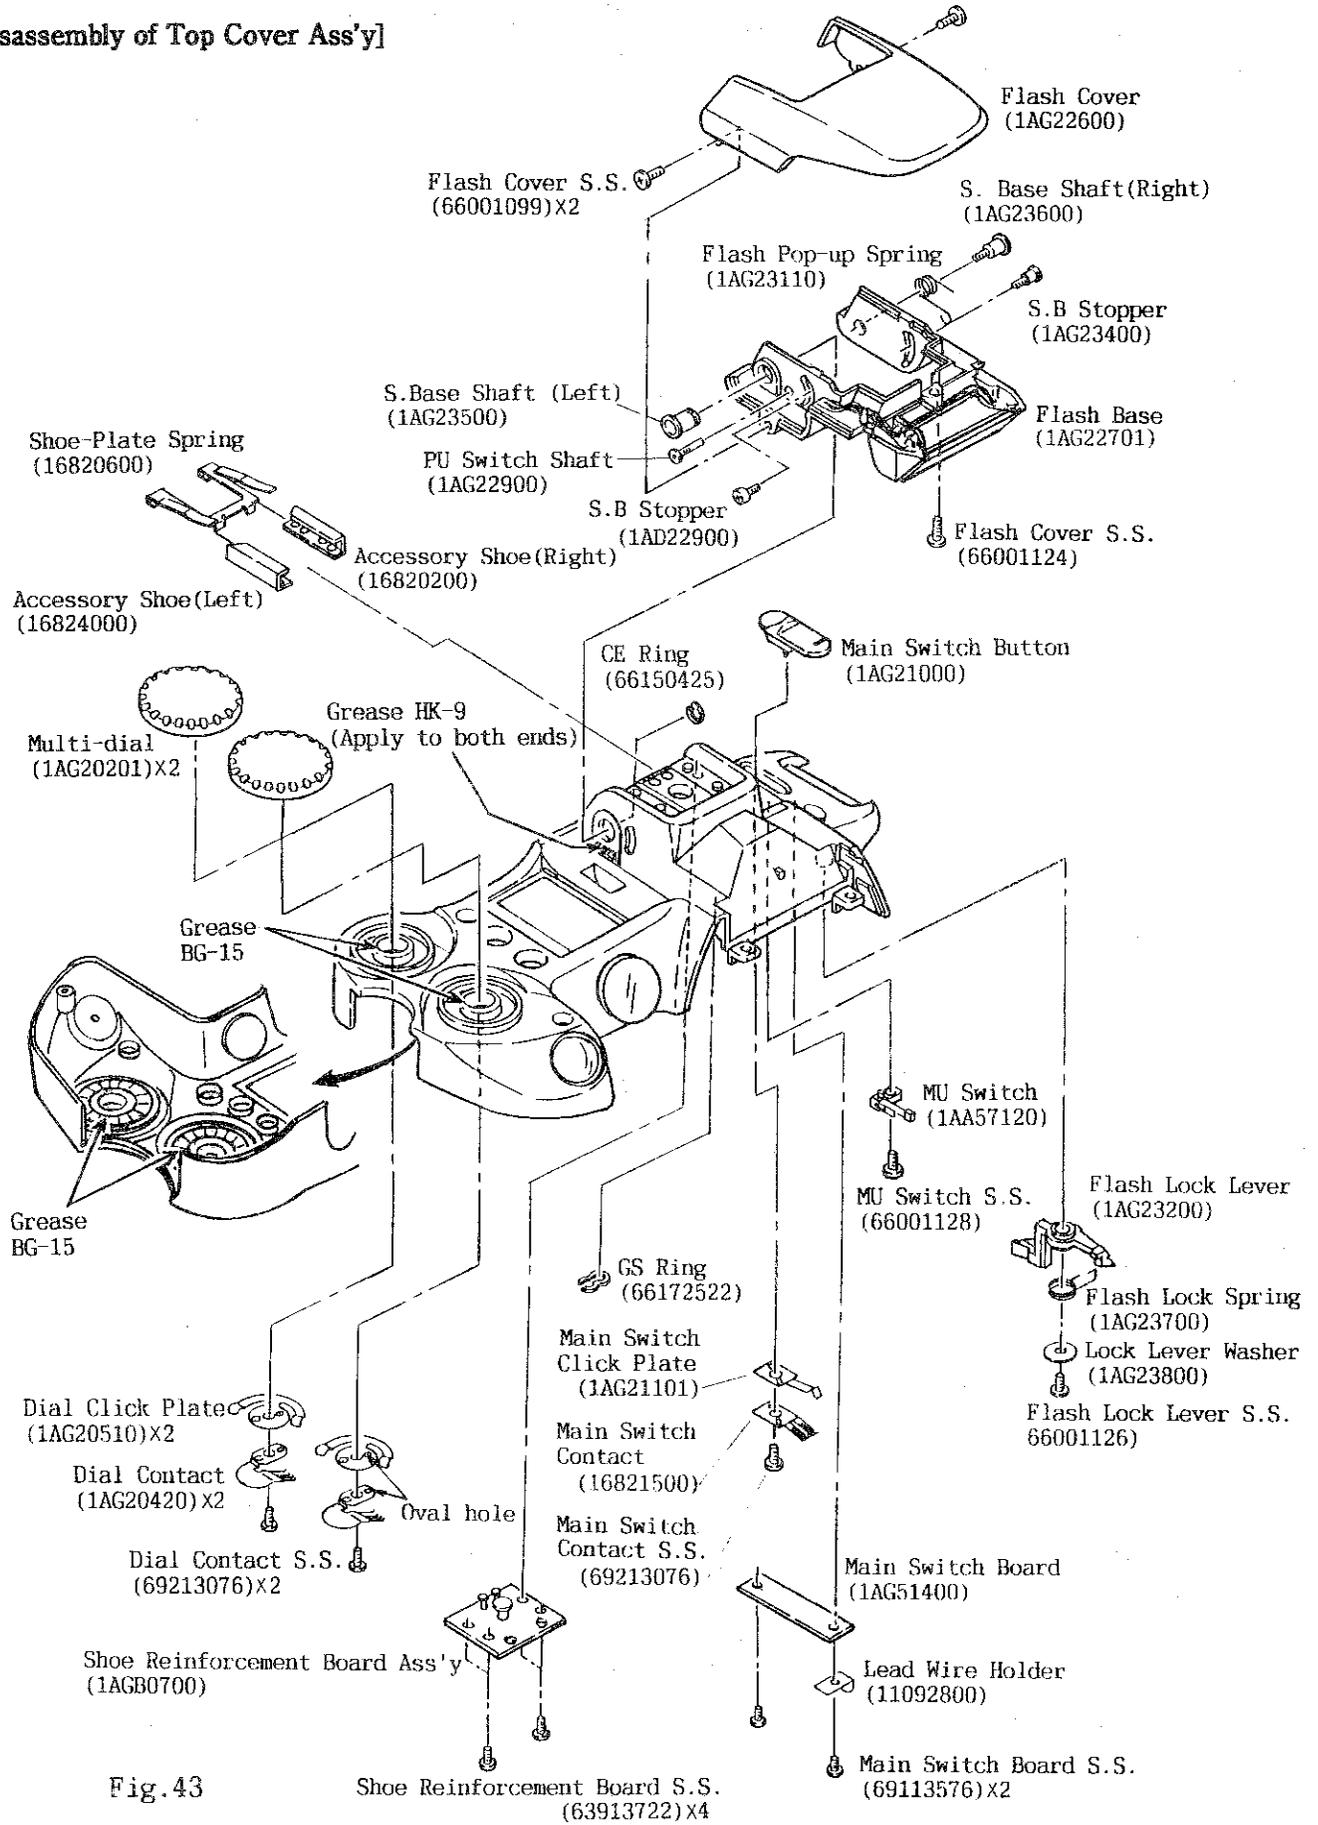

Fig. 43
- a) Fit the pins of each Multi - dial in the two pairs of holes in the Dial Click Plate and Dial Contact. In doing so, align the oval hole in the Dial Click Plate with that of the Dial Contact. (See Fig.43)